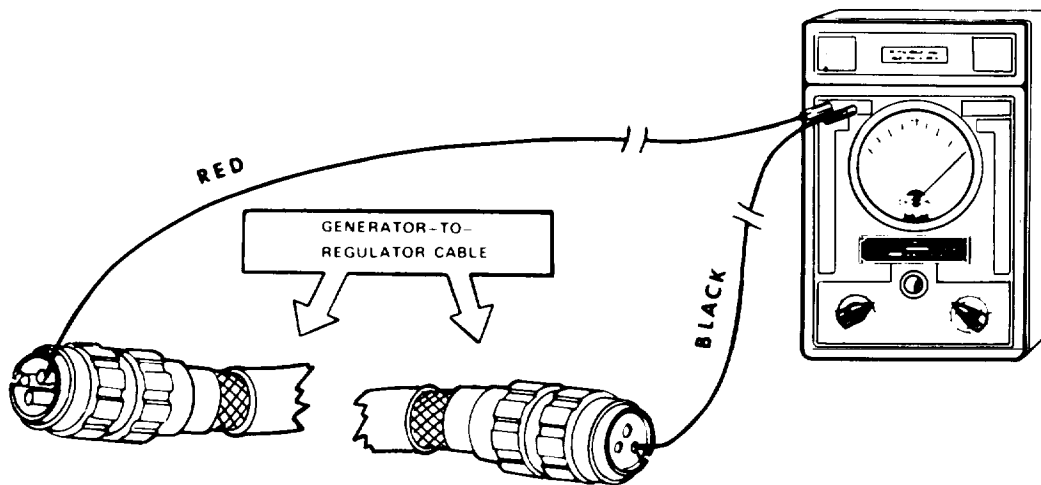

Figure 5-6. Testing for Shorts
- (1) Disconnect the circuit being tested. To be safe, disconnect the battery ground cable.
- (2) Set up and "zero" the multimeter (para b.).
- (3) With any of the three multimeters, connect one probe to one circuit and the other probe to the other circuit or ground (if checking for a short to ground). Figure 5-6 shows a check to see if wire "A" is shorted to wire "B" in the wiring harness.